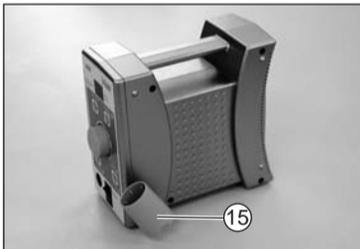

Fig. 6
Mount Handpiece Holder⑮ at either side of the control unit. Adjust the angle and tighten the screw. (Fig. 6)